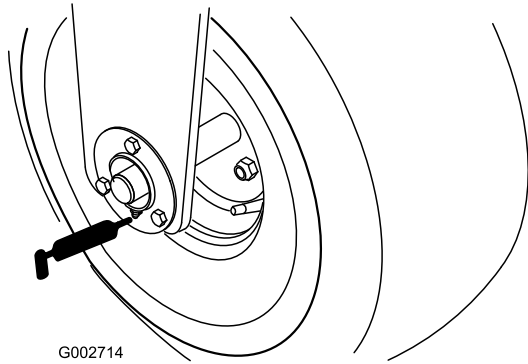

Figure 19
- 1 Front wheel bearing (Figure 19).